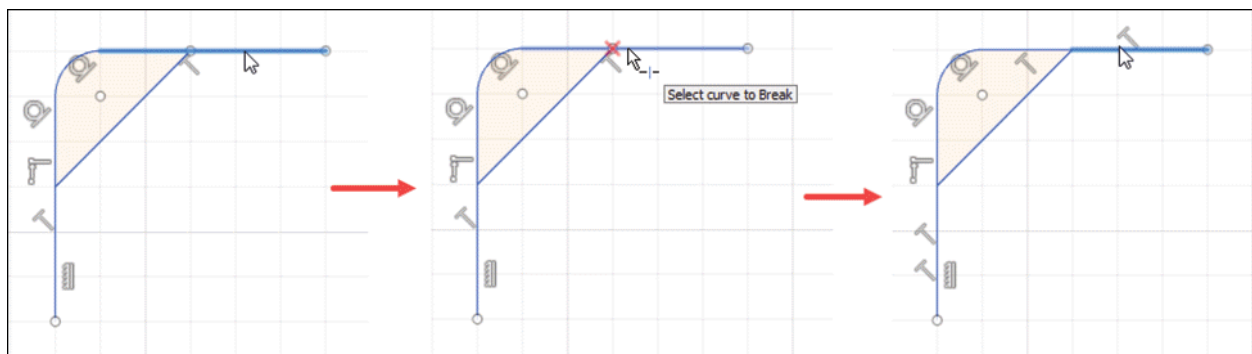

Figure-83. Creation of break
- If preview is as per your requirement then click on the entity to break; refer to Figure-83.